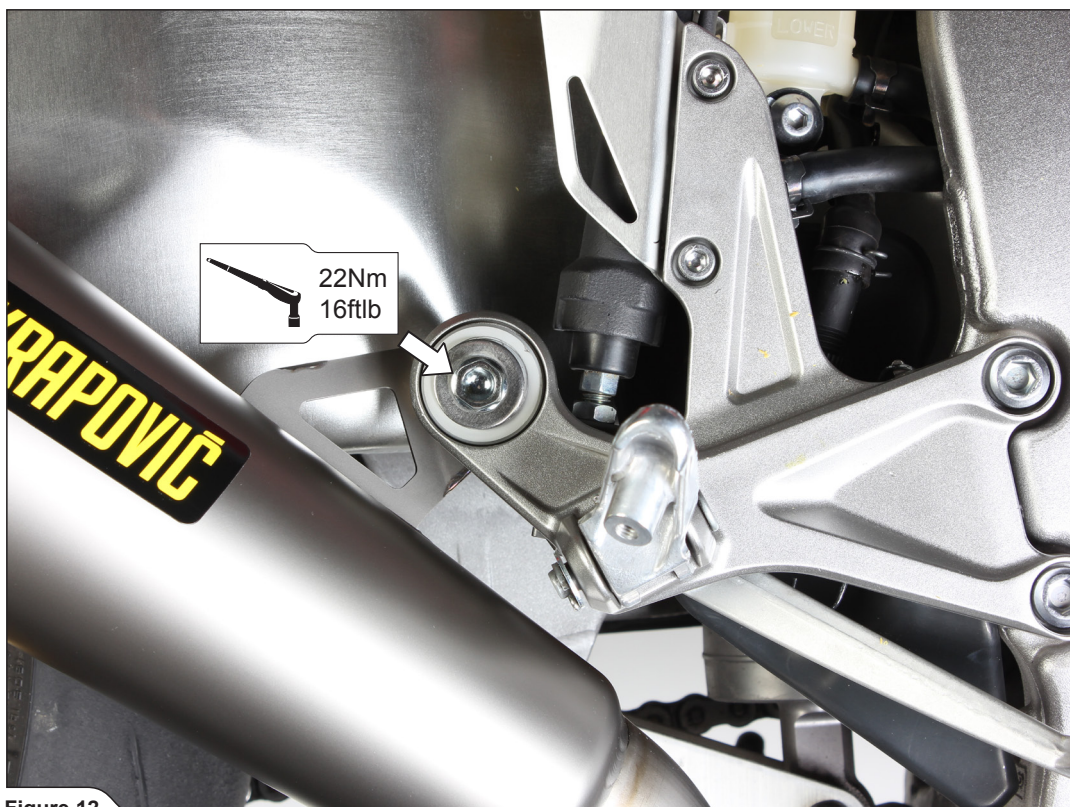

Figure 12
6. Align the muffler in respect to the motorcycle and tighten the marked bolt and clamp to the specified torque (Figure 12, 13).